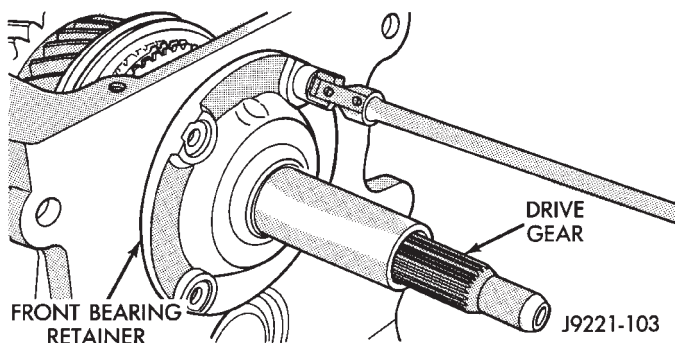
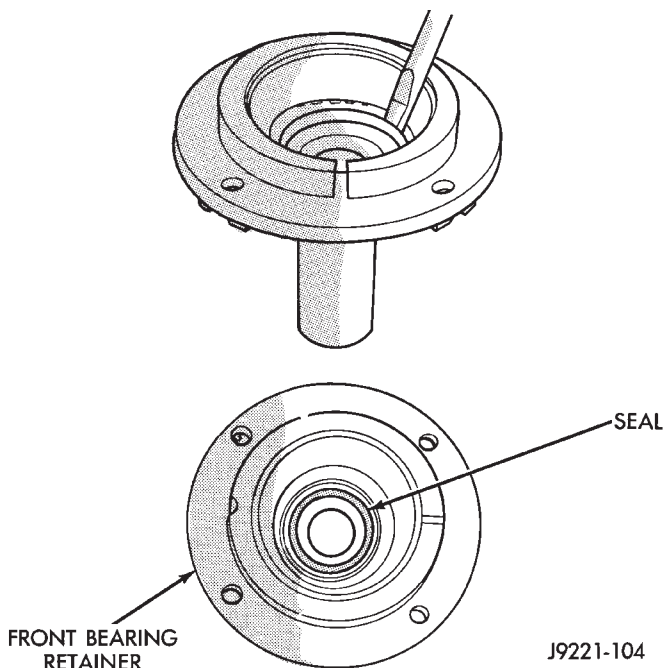

Fig. 36 Removing Front Bearing Retainer Bolts
Fig. 37 Removing Bearing Retainer Seal
(1) Remove front retainer bolts (Fig. 36). Discard retainer bolts. They should not be reused.
(2) Remove front retainer by lightly tapping it back and forth with plastic mallet to loosen it. Then rock retainer back and forth by hand to work it out of gear case. Note that retainer flange extends into the transmission case and is a snug fit into case bore.
(3) Remove seal from front retainer (Fig. 37). Use small chisel to collapse one side of seal then pry it out with suitable tool.
(4) Remove bearing cup from front retainer as follows: